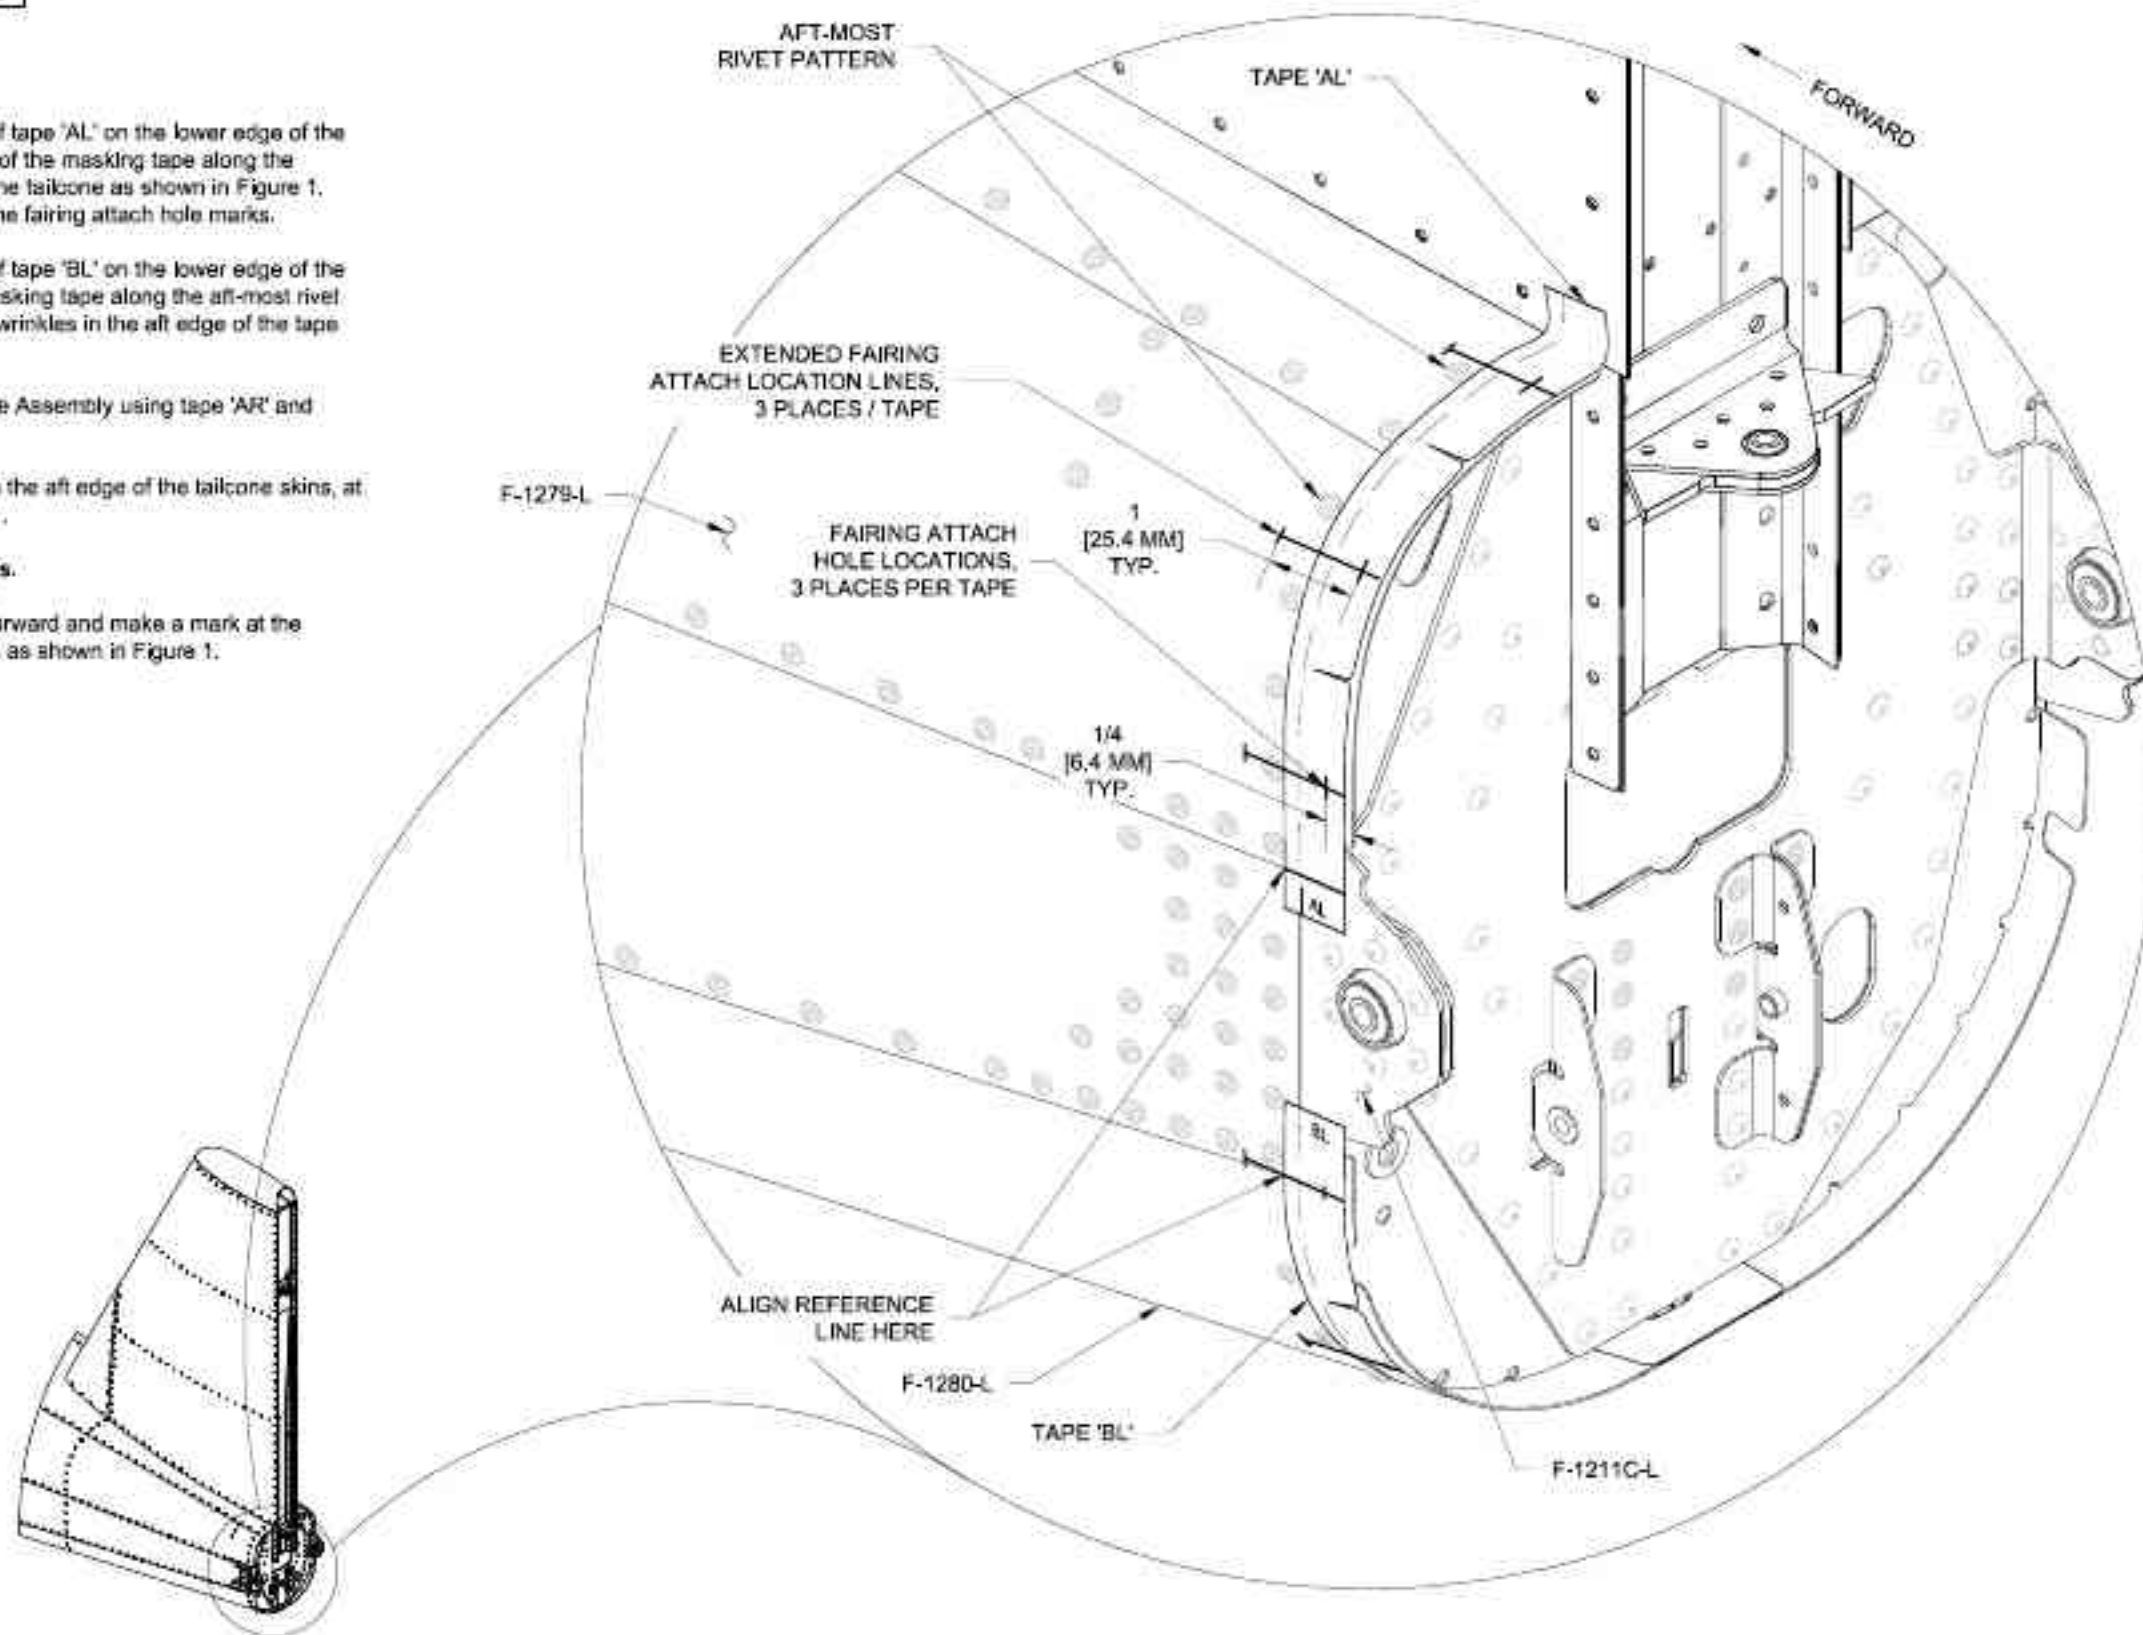

FIGURE 1:
Step 3: Measure and mark the dimension given from the aft edge of the tailcone skins, at each fairing attach hole location as shown in Figure 1.
Step 4: Extend the fairing attach hole location lines forward and make a mark at the dimension shown, at each fairing attach hole location as shown in Figure 1.
Step 1: Align the forward edge of the F-1294B-1 to the fairing edge line (ref Page 12IS/U-05, Figure 1) on tape 'BL' and 'BR' as shown in Figure 1. Temporarily tape or clamp the F-1294B-1 to the tailcone.